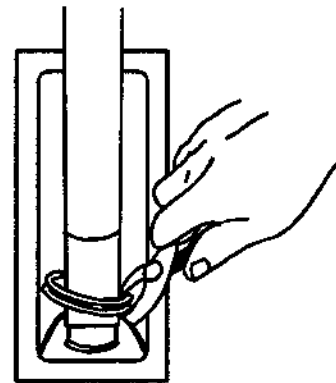

Fig. 4
4. Slide the hose over the drain connector of the washer and clamp it in place. (Fig. 4)